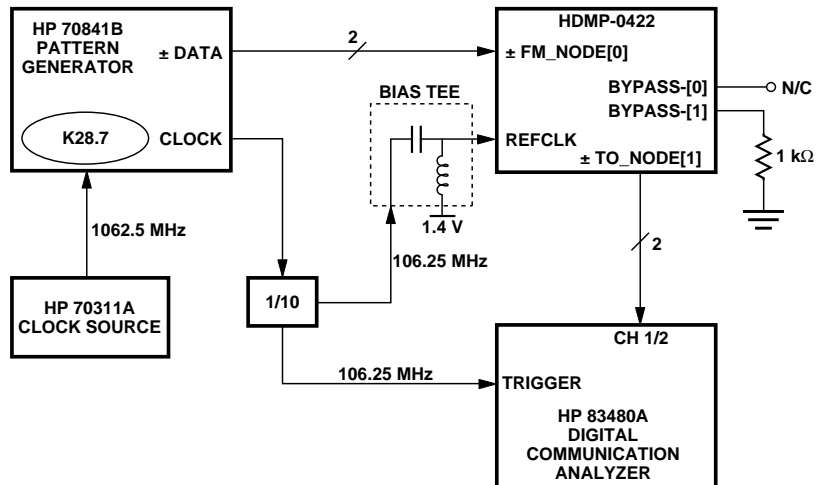

Figure 7. Setup for measurement of Random Jitter.
1. Please refer to Figures 7 and 8 for jitter measurement setup information.